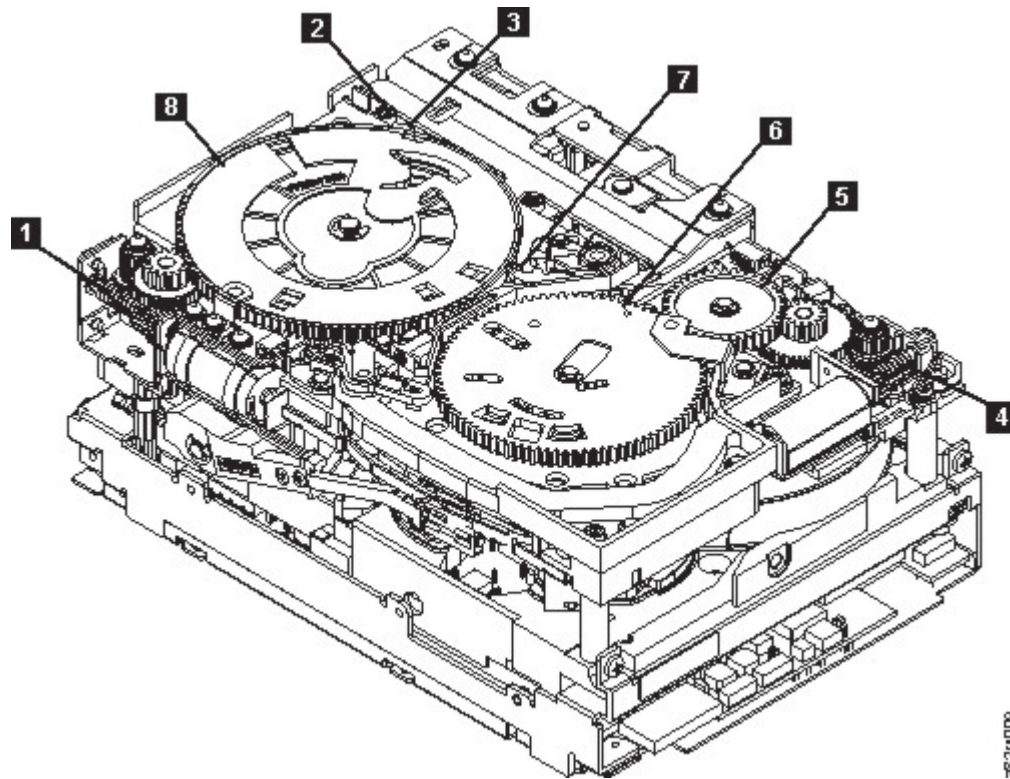
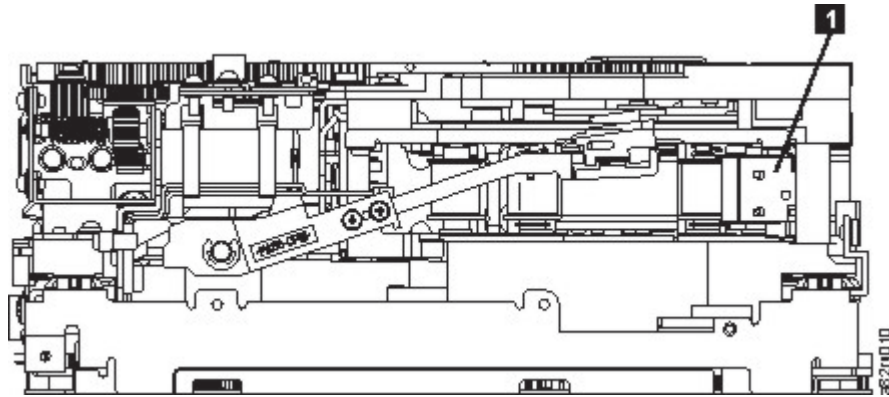

Figure 127. Drive with cover removed to reveal gear train.
Figure 128. Leader Block Assembly (LBA)
5. Locate the threader motor worm gear (4 in Figure 127 on page 252) on the rear of the drive. Use your finger to rotate the threader motor worm gear and slowly rotate the threader mechanism gear (6 in Figure 127 on page 252) clockwise.
This action rotates the threader motor worm gear (4 in Figure 127 on page 252) clockwise, drawing the LBA into the cartridge.
6. As the tape leader block assembly (LBA) is secured in the cartridge, you hear the LBA retention spring clips click into place. If you do not hear the click, continue rolling until the threader motor worm gear (**4** in Figure 127 on page 252) stops. The LBA is in the correct position.
- a) Loader mechanism gear (**6** in Figure 127 on page 252) nearest the front of the drive that actuates the cartridge loader mechanism.
- b) Position of the rotate stub (**3** in Figure 127 on page 252).
- c) Front loader motor worm gear (**1** in Figure 127 on page 252). Rotating this gear allows the loader mechanism gear (**8** in Figure 127 on page 252) to turn.
8. Rotate the loader motor worm gear (**1** in Figure 127 on page 252) to turn the loader mechanism gear (**6** in Figure 127 on page 252) counterclockwise. Continue turning until the rotator stub (**3** in Figure 127 on page 252) loses contact with the lever (**7** in Figure 127 on page 252). This action releases the LBA leader pin.
9. Rotate the threader motor worm gear (**4** in Figure 127 on page 252) to turn the threader mechanism gear (**6** in Figure 127 on page 252) counterclockwise. This action moves the LBA out of the cartridge and past the read/write head. Stop this rotation when the LBA is near the tape guide roller nearest the rear of the drive that is shown as **1** Figure 128 on page 253.
10. Continue rotating the loader motor worm gear (1 in Figure 127 on page 252) until the rotator stub (3 in Figure 127 on page 252) is positioned as shown. Notice that the rotator stub (3 in Figure 127 on page 252) is nearly aligned with the cartridge loader tray guide bearing (2 in Figure 127 on page 252).